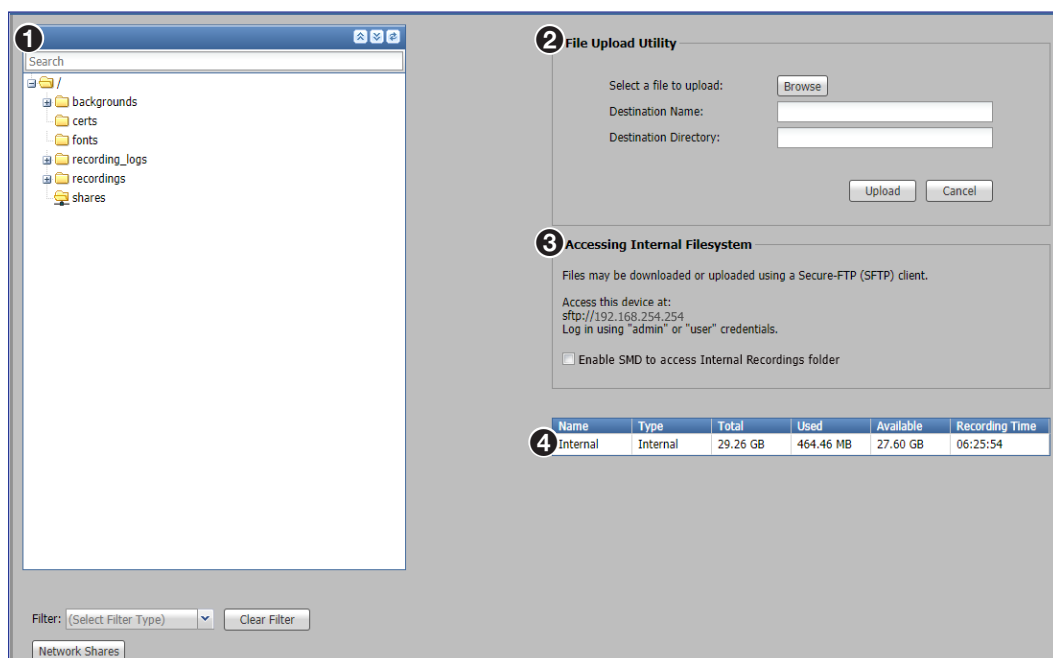

Figure 58. File Management Page
The File Management page opens showing the File Directory (see figure 58, ❶), File Upload Utility (❷), and Accessing Internal Filesystem panes (❸):